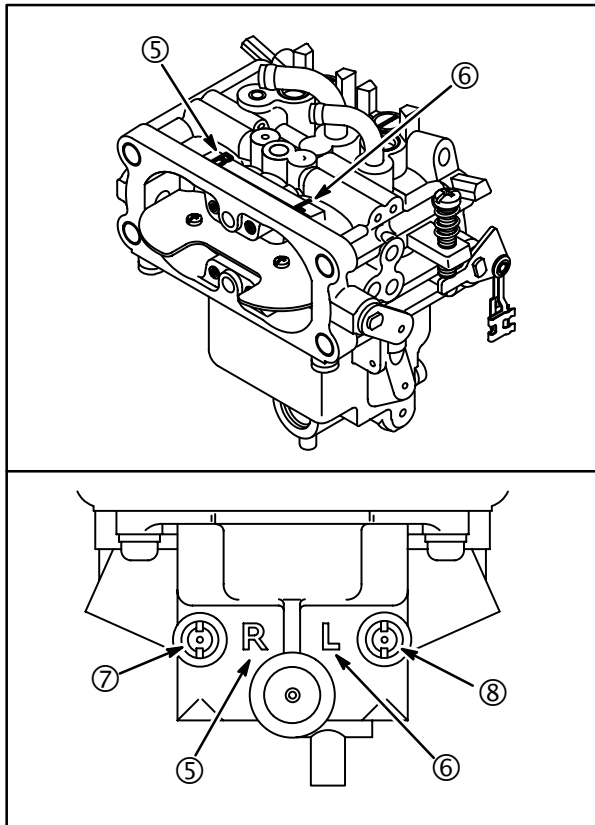

Fig. 61
3. Remove fixed main jets (7, 8), Fig. 61.
The carburetor is marked in the upper body near the choke plate and the lower body near the main jet plugs. See Fig. 61.